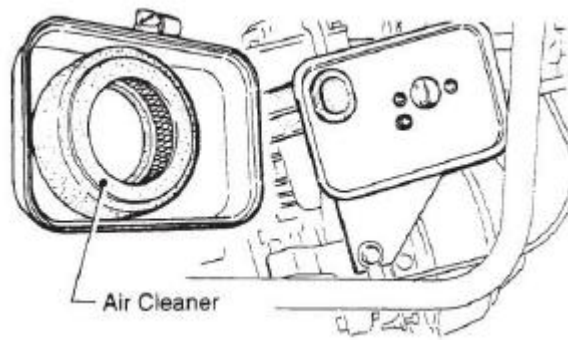

Figure 12 Engine Air
- The air cleaner (Figure 12) on the engine side will hardly be contaminated, if it is, however after cleaning the element with kerosene, dip it in mixed oil consisting of 3 parts of gasoline and 1 part of engine oil. Then tightly squeeze outer primary element (sponge) and shake off well the inner secondary element before installing them.